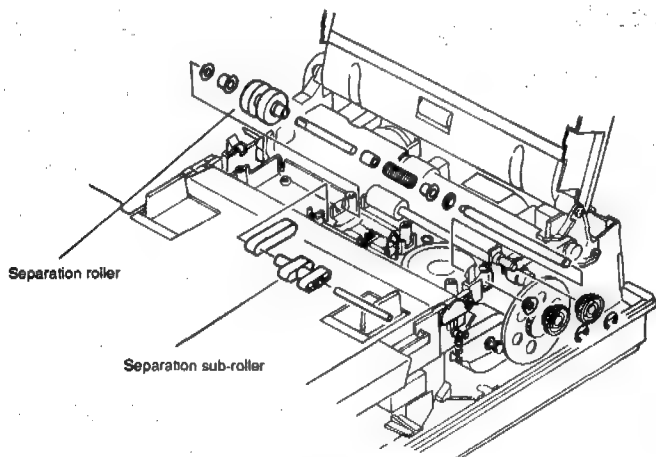

Fig. 4-4-35
2. With reference to Fig. 4-4-35, remove the separation roller and separation sub-roller.